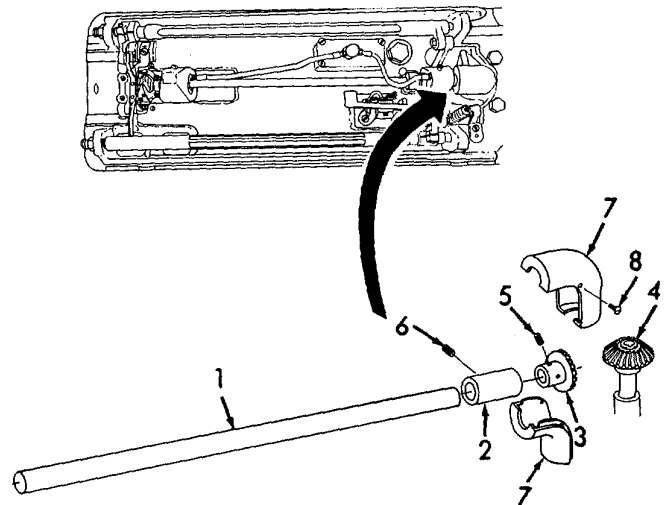

Figure 6-60. Bobbin Drive Shaft and Gears, Installation.
(5) Inspect the bobbin case and rotary hook assembly for damage.
(6) Inspect the thrust collar for damage.
e. Installation (Refer to Figures 6-60 and 6-61).
(1) Refer to Figure 6-60. Install the shaft (1) through the front bushing with the flat on the shaft towards the rear.
(2) Slip on the thrust collar (2). Do not tighten the setscrews at this time.
(3) Slide the shaft (1) into the rear bushing.
(4) Slide pinion gear (3) onto shaft (2). Be sure that the pinion gear (3) mates with the other pinion gear (4).
(5) Move shaft (1) until the shaft end is flush with the end of the pinion gear (3). Tighten the pinion gear setscrews (5).